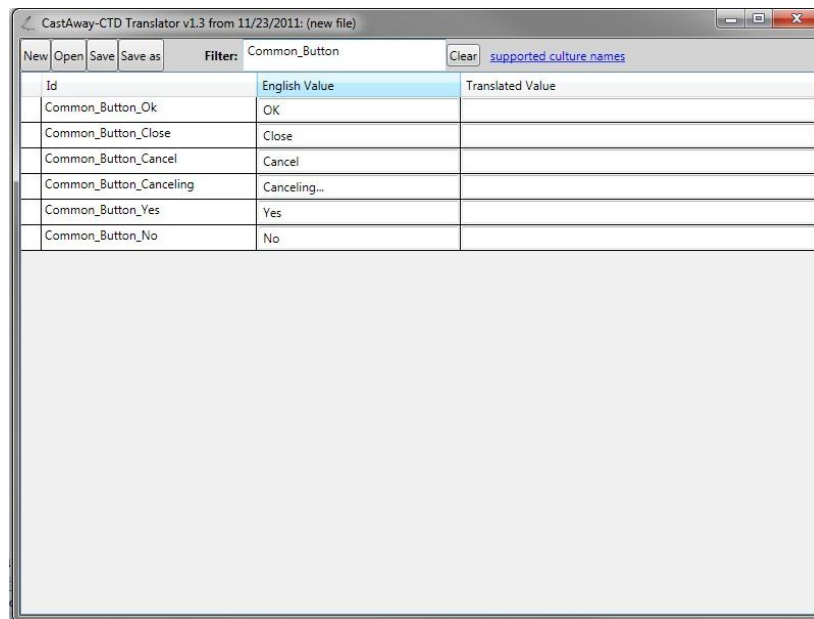

Figure 26 – CastAway Translator Filter Example
- For example, if filtering based on **Common_Button**, only those parameters whose **Id** starts with that text will be shown (Figure 26).